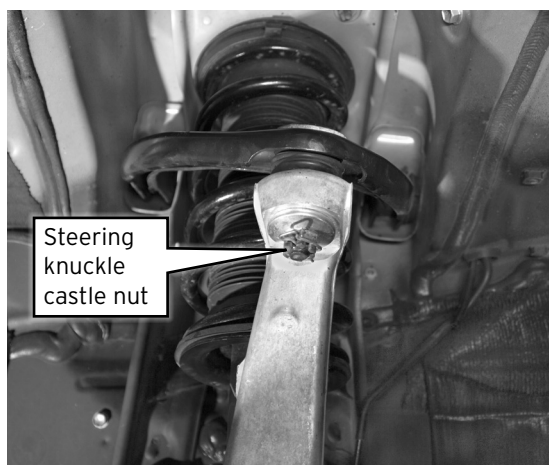

Fig. 2
3. Remove the cotter pin and castle nut from the steering knuckle (Fig. 2). Disconnect the knuckle from the upper control arm.